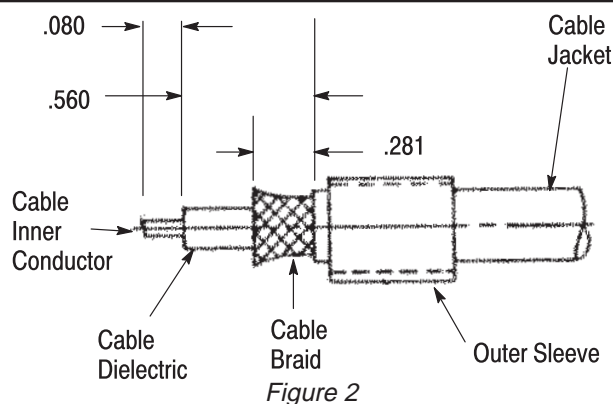

Figure 2
3. Trim the cable braid to the the dimension specified in Figure 2.
4. Trim the cable dielectric to the dimension specified in Figure 2.
5. Trim the inner conductor to the length specified in Figure 2.